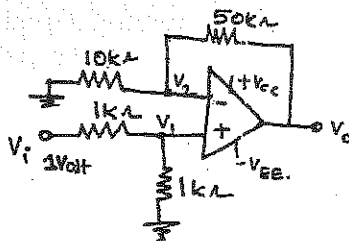

Fig. 1
3. Determine the output voltage V_o for the non-inverting amplifier circuit shown in Fig. 1.